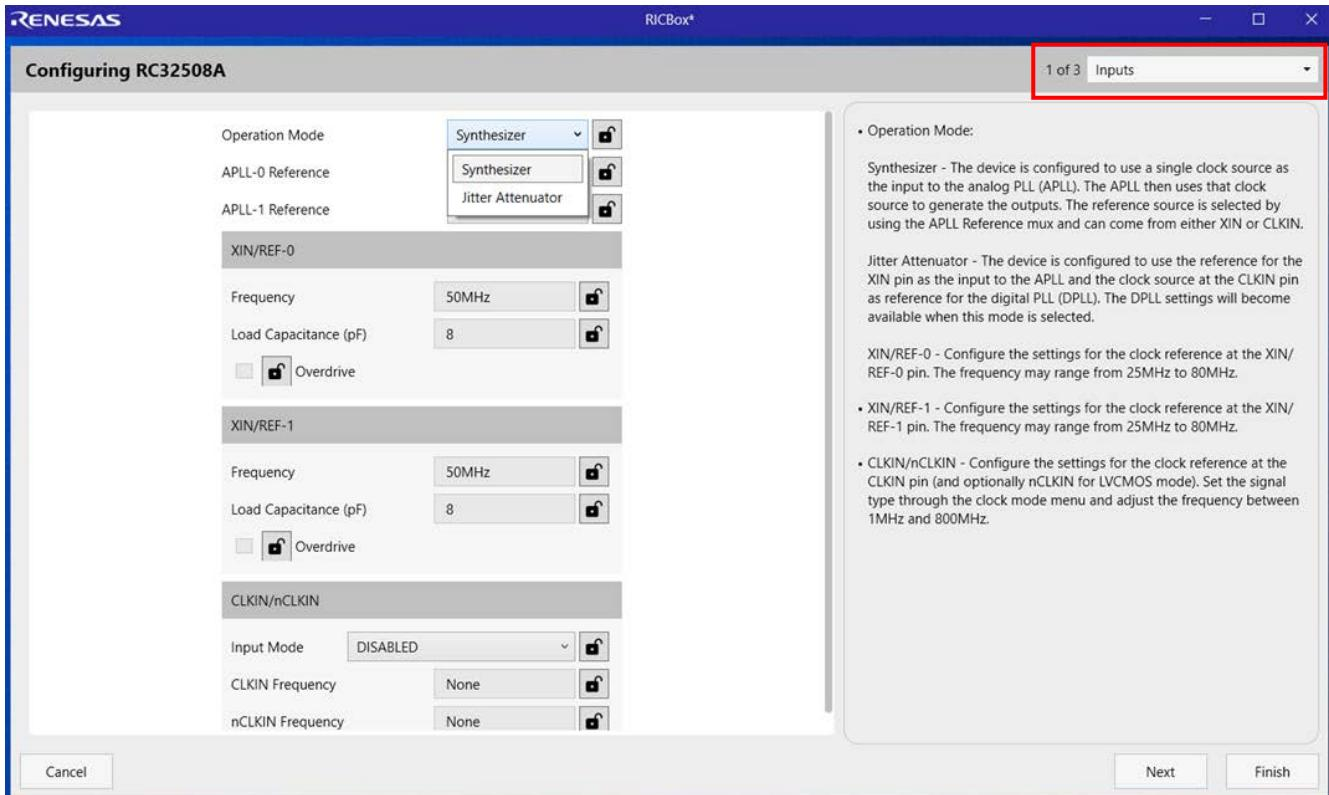

Figure 10. Wizard Page Navigation Window
- When creating a new configuration, the wizard page is the first screen to appear (see Figure 10). The wizard contains a pull-down list of configuration pages (located in the upper right-hand corner of the window) pertaining to different sections of the device that require overall configuring.